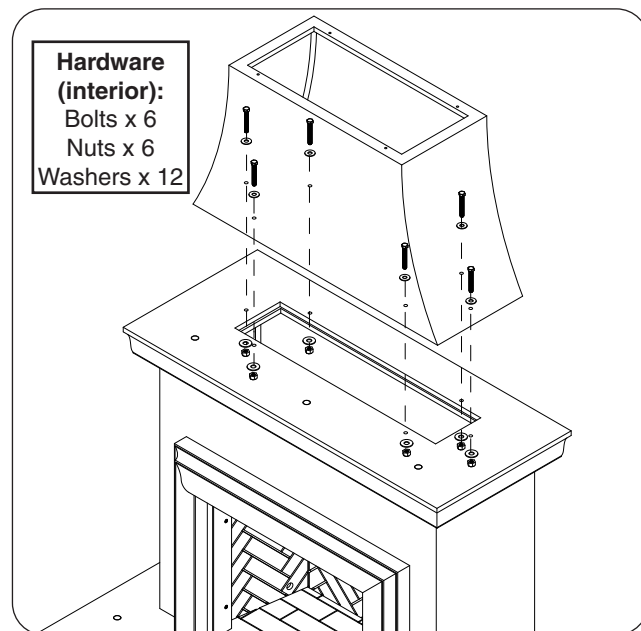

Fig. 24-1 Assemble chimney
1. Place the chimney piece on top of the mantel piece. Carefully align the pilot holes, and insert the hardware (interior hardware kits) in the order shown in Fig. 24-1. Hand tighten, then use two $\frac{3}{4}$ " open end wrenches (or equivalent) to fasten.